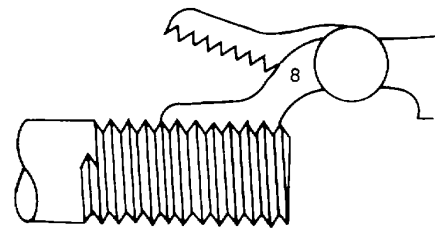

**Figure 3-52. Thread Gauge**
- (1) Coat all metal parts of height gauges with a light coat of oil to prevent rust.
- (2) Carefully store height gauges in separate containers provided by manufacturer.
- (3) Keep graduations and markings clean and legible.
- (4) Do not drop any height gauge. Small nicks and scratches can cause inaccurate measurements.
**3-13. Thread Gauges.** Thread gauges are used to determine the pitch and number of threads per inch on threaded fasteners. They consist of leaves whose edges are toothed to correspond to standard threads. A typical thread gauge is shown in figure 3-52.